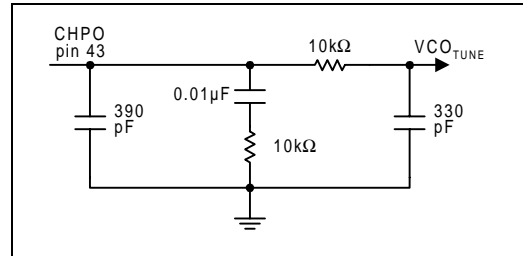

Figure 3. Typical Loop Filter
**Synthesizer Loop Filter.** A typical loop filter design is shown below in Figure 3. The loop bandwidth is approximately 5 kHz with a nominal phase margin of 45 degrees for a VCO sensitivity of 60 MHz/V.